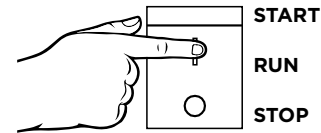

Figure 11 - Engine Control Switch - START
- Electric Start:** Push and hold the engine control switch in the **START** position until the engine starts. Once the engine starts, release the engine control switch; the switch will automatically move into the **RUN** position (see Figure 11 below).
- a. **Electric Start:** Push and hold the engine control switch in the **START** position until the engine starts. Once the engine starts, release the engine control switch; the switch will automatically move into the **RUN** position (see Figure 11).